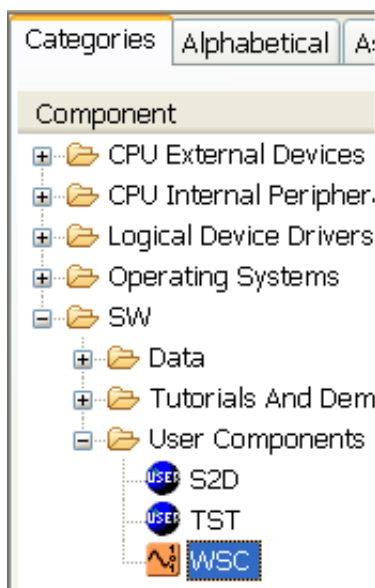

Figure 3. WSC component in PE Components Library
4. After installing the WSC, it can be found in the User Components of the SW group, in the Processor Expert Components Library. If it does not appear, right click in the library area and choose “Refresh.”, refer to Figure 3